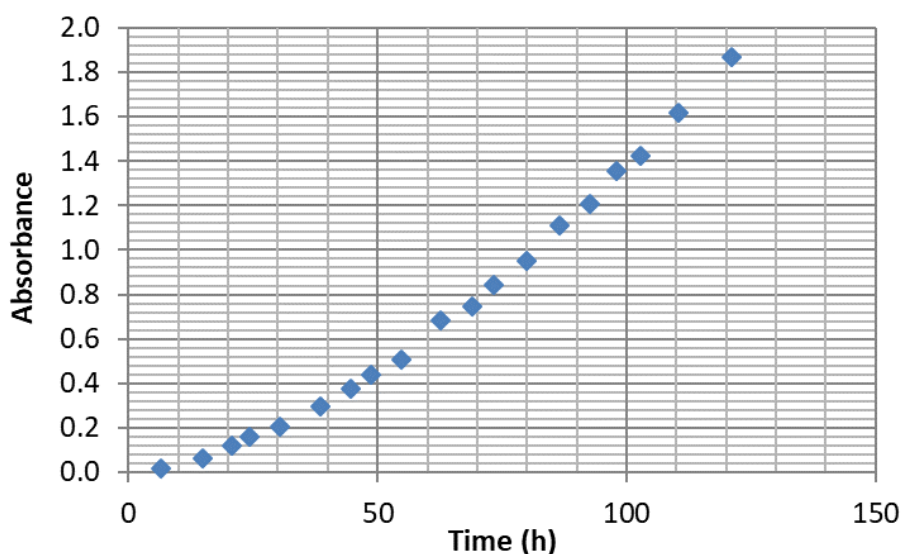

Figure 2:  $A_{470}$  (absorbance at 470 nm) as a function of time for the fructose - glycine reaction
A second experiment (B) was carried out by adding  $n_{\text{Fru,B,0}} = 1$  mol of fructose and  $n_{\text{Gly,B,0}} = 0.5$  mol of glycine without sodium metabisulphite to a 1 L sodium acetate/acetic acid buffer. A magnetic stirrer was used all along the experiment. Every 6 hours, the absorbance of an aliquot of 1 mL was directly measured at 470 nm in a cell of  $l = 1$  cm. The obtained data is shown in figure 2. Given the steps (1) and (2), the concentration of the melanoidin product  $[\text{M}]$  can be written as:
8. **Determine** graphically the value of  $\left. \frac{dA_{470}}{dt} \right|_{t=80\text{h}}$  derivative of  $A_{470}$  absorbance at 470 nm at  $t = 80$  h based on figure 2.